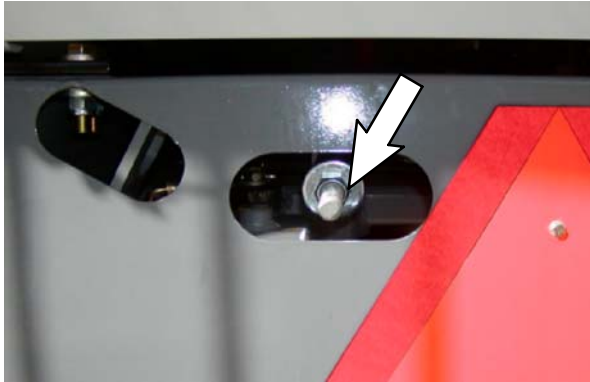
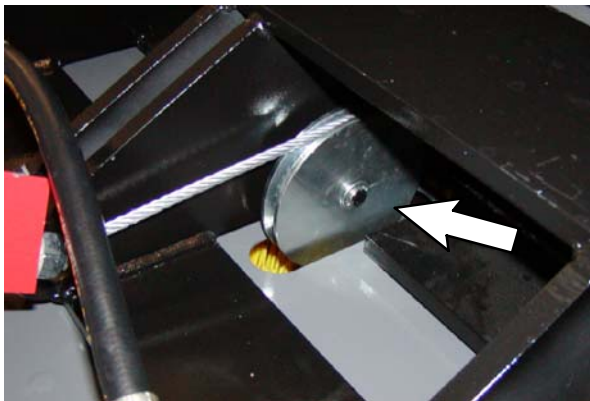
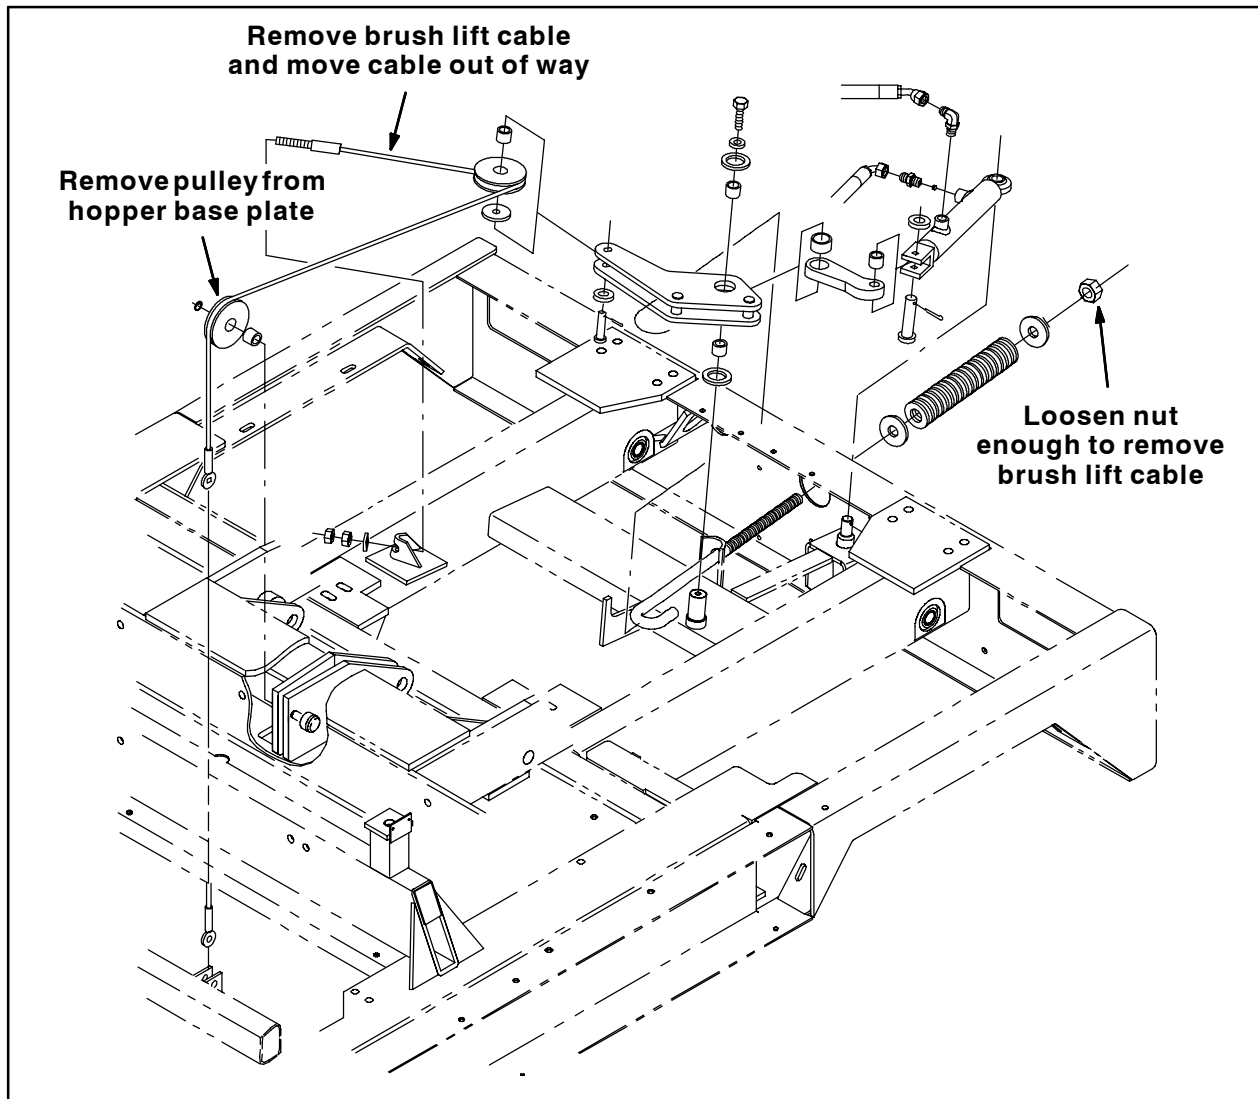

FIG. 2
FIG. 3
FIG. 11
1. Loosen the nut on the main brush lift spring enough to remove the brush lift cable from the rear frame mount. The lift spring nut is located at the rear of the machine. Refer to Fig. 2, Fig. 3, and Fig. 11.
2. Remove the pulley from the pin. Set the pulley aside. Discard the rest of the hardware. Refer to Fig. 3 and Fig. 11.
3. Move the brush lift cable out of the area of the brush lift pulley pivot pin and shield the cable as necessary to prevent it from being damaged. Refer to Fig. 3 and Fig. 11.
15. Reinstall the brush lift cable and tighten the nut on the main brush lift spring. Refer to Fig. 2 and Fig. 11.